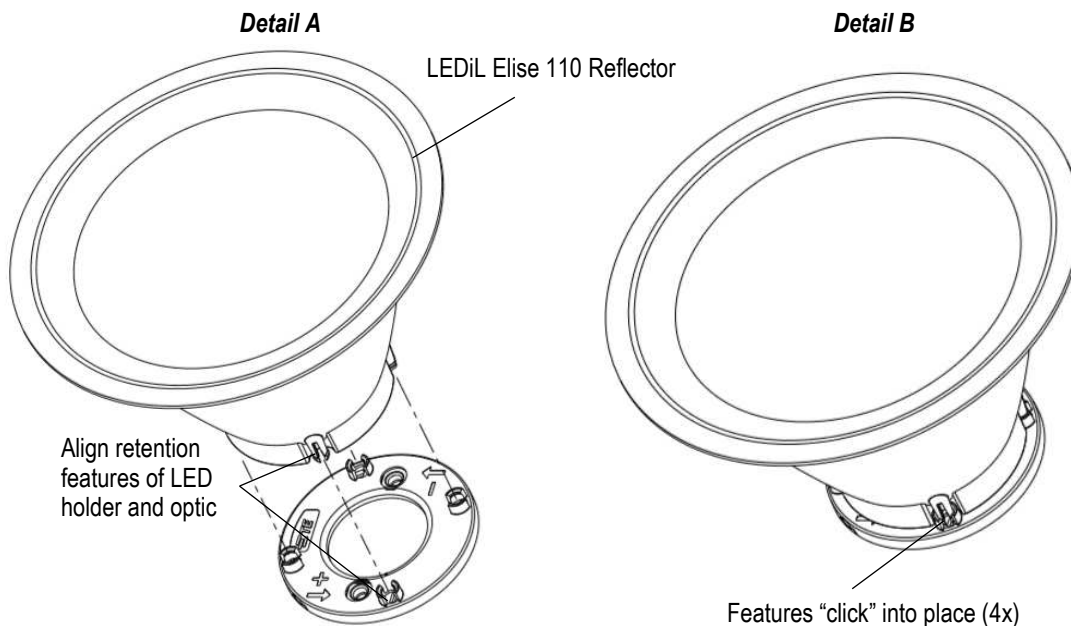

Figure 7
1. Align the reflector mating features with the LED Holder Reflector snap in feature (4 total) and snap in the reflector vertically into the LED holder. Push the reflector in until an audible “click” is observed, and the reflector sits flush against the LED Holder. See Figure 7, Detail A and B.